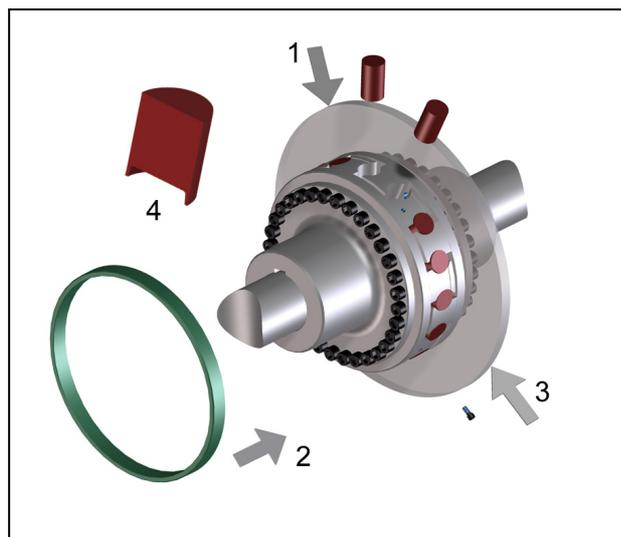

Fig. 5
- Mount the buffers with the **hollow pointing inwards** (Fig 5, Pos. 4).
- Push on the retaining ring until it contacts the hub face, so that the ring is seated centrally above the elastic buffers (Fig 5, Pos. 2).
- Secure the retaining ring with the retaining screws on the claws of the coupling hub. Tighten the retaining screws at the retaining ring (Fig. 5, Pos. 3) to the tightening torque M_A specified in table 3.